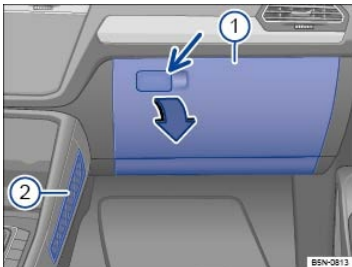
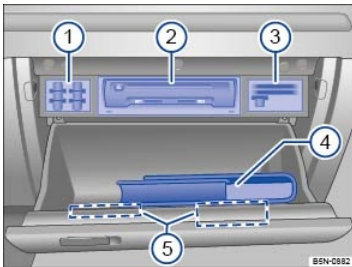

Fig. 144 On the passenger side: Glove compartment.
Fig. 145 Inside the glove compartment.
**Key to ⇒ Fig. 144 :**
- ① Glove compartment
- ② Storage area
**Key to ⇒ Fig. 145 :**
- ① SD card holders
- ② Infotainment system accessories (if equipped) ,Chapter *Infotainment System*
- ③ Card holders and coin holder (if equipped)
- ④ Owner's Manual
- ⑤ Additional holders for coins, cards, or sunglasses
To *open*, pull the handle ⇒ Fig. 144.
Vehicles equipped with an Infotainment system may have a CD player, SD card readers, or other Infotainment system accessories ⇒ Fig. 145② in the glove compartment. See ,Chapter *Infotainment System* for further information.
Depending on vehicle equipment, there may be holders for SD cards ⇒ Fig. 145①, other types of cards ③, and a coin holder in the upper part of the glove compartment.